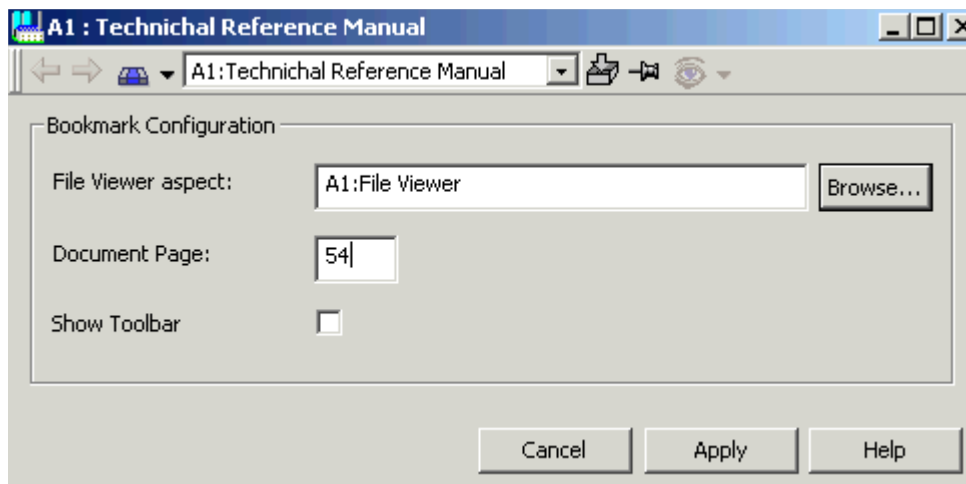

Figure 236. Technical Reference Manual - Chapter
3. Select the File Viewer aspect that contains the wanted document of the File Viewer aspect type, see Figure 236.